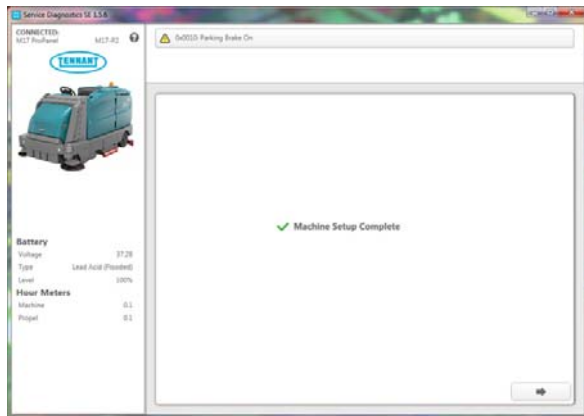

FIG. 18
- The Machine Setup Complete screen appears after configuration is complete. (Fig. 18)